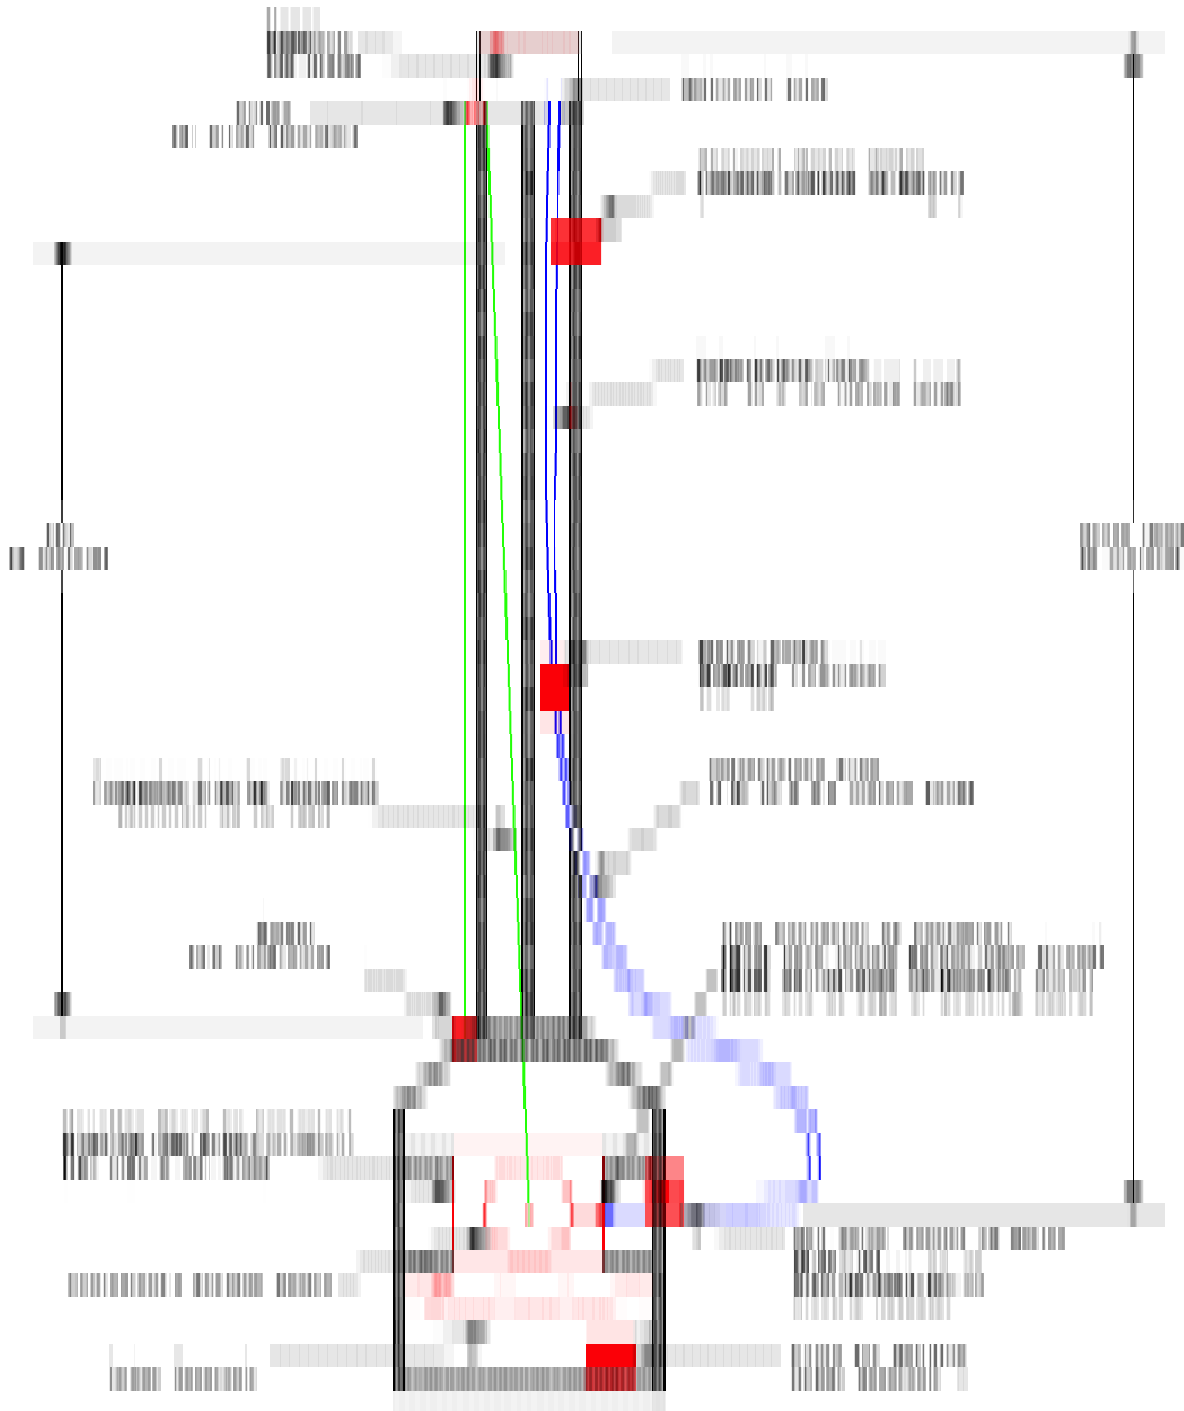

Figure 28. Schematic of test stand. Note: some of the dimensions are wrong in this figure; see item 6 above for the correct dimensions.
4. **Mounting your gadget to a board compatible with the test stand.** The gadget must be attached to a mounting board (*Figure 27*) (provided by AME) that is 20 inches wide and 15 inches in height. The mounting board will have two 1/2 inch holes drilled through it. The holes will be centered at a point 1-1/2 inches from the edges of the board nearest the two upper corners. These holes will be used to attach your board to support brackets on the test fixture (see *Figure 28*). **No part of your gadget can protrude beyond the 20 inch x 15 inch envelope of the board. You can only use one side of the board.**
5. **Plumbing.** The gadget will be connected to the test apparatus using a standard garden hose thread female connector (on the gadget) that connects to a male garden hose connector (on the test fixture) (see *Figure 28*). The male garden hose can be attached to your gadget anywhere on the board.
6. **The testing procedure.** Up to 30 liters of water will be allowed to flow, starting at a 4-meter elevation above the control valve centerline, through a conduit (a 1-inch ID (inside diameter) x 1.5-meter-long polyethylene tube) to a flow meter. From the flow meter, the water will run through another conduit (a 1-inch ID x 2.5-meter-long polyethylene tube) to the control valve, and then to your gadget. Your gadget will lift the 1.5 kg mass vertically 4 meters. A sump beneath the testing apparatus will collect water flowing out of the gadget; you don't need to do "water management." *Figure 28* is a sketch of the test stand.